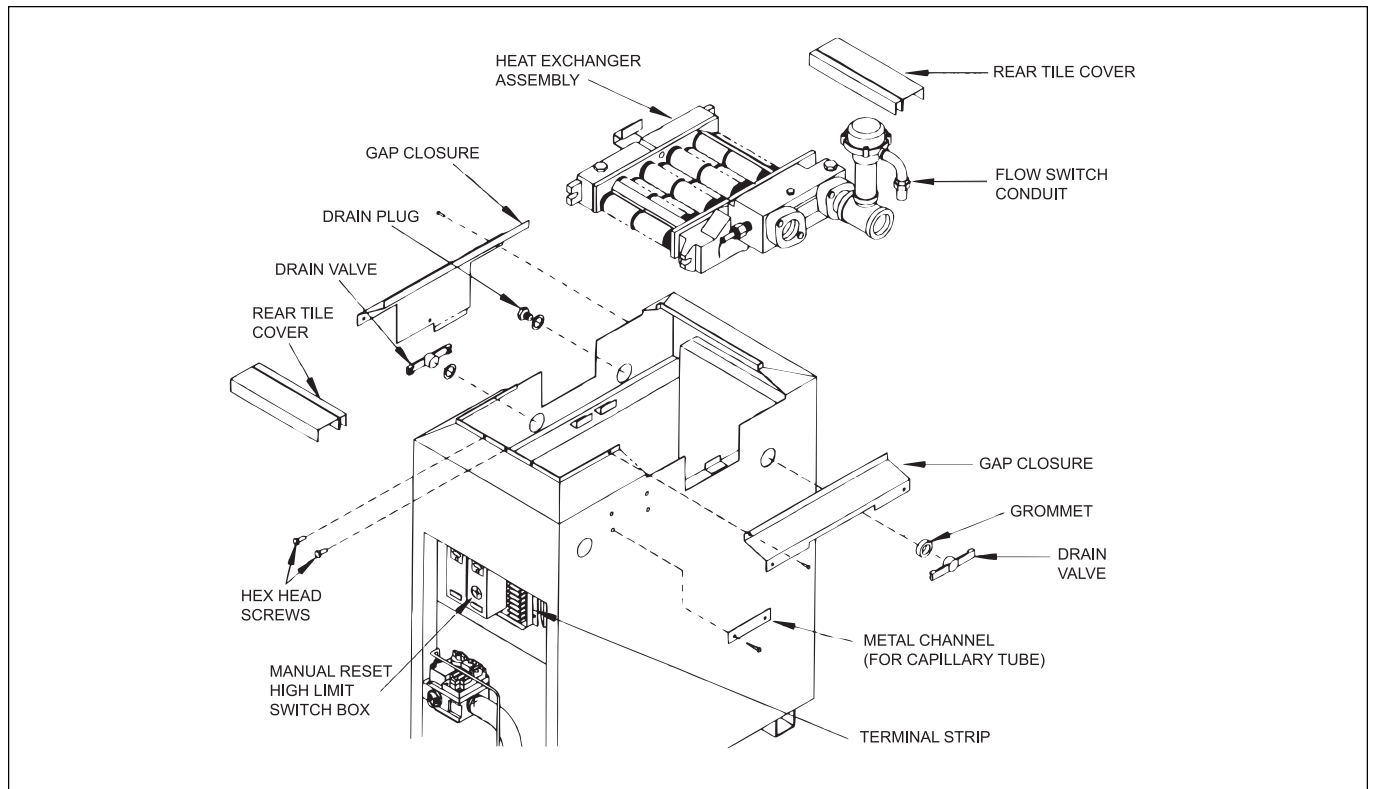

Figure 15. Heat exchanger reversal.
3. If the unit is in the low-profile outdoor configuration, remove the hex-head screws (see Figure 15) and lift the grate top assembly straight up.
10. In the control compartment, find the manual reset high-limit switch box (see Figure 15) and loosen the screw on the top to remove the cover.
19. Remove the front and rear tile covers (see Figure 15).